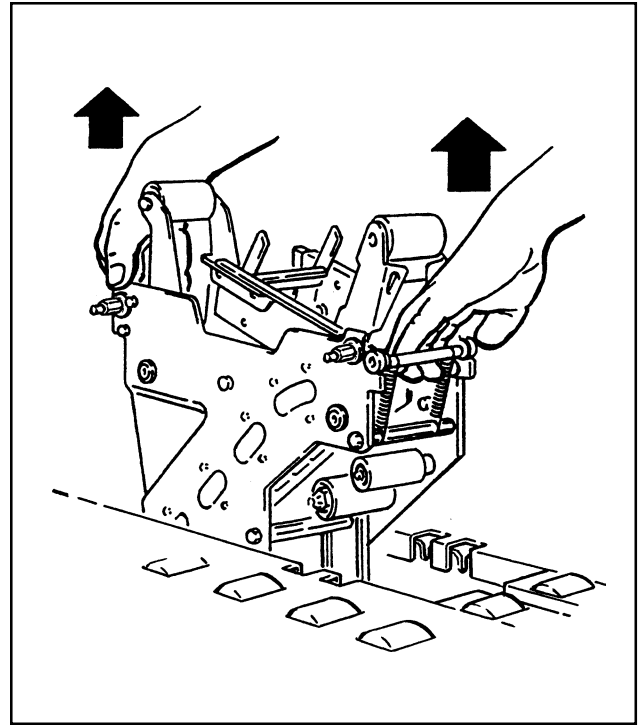

Figure 5-2 – Remove Lower Taping Head
- Lift the lower taping head as shown in Figure 5-2 and remove it from the machine bed.
CAUTION – Holding taping head in another way than shown in Figure 5-2 may increase the danger of being injured by the tape cut-off knife.